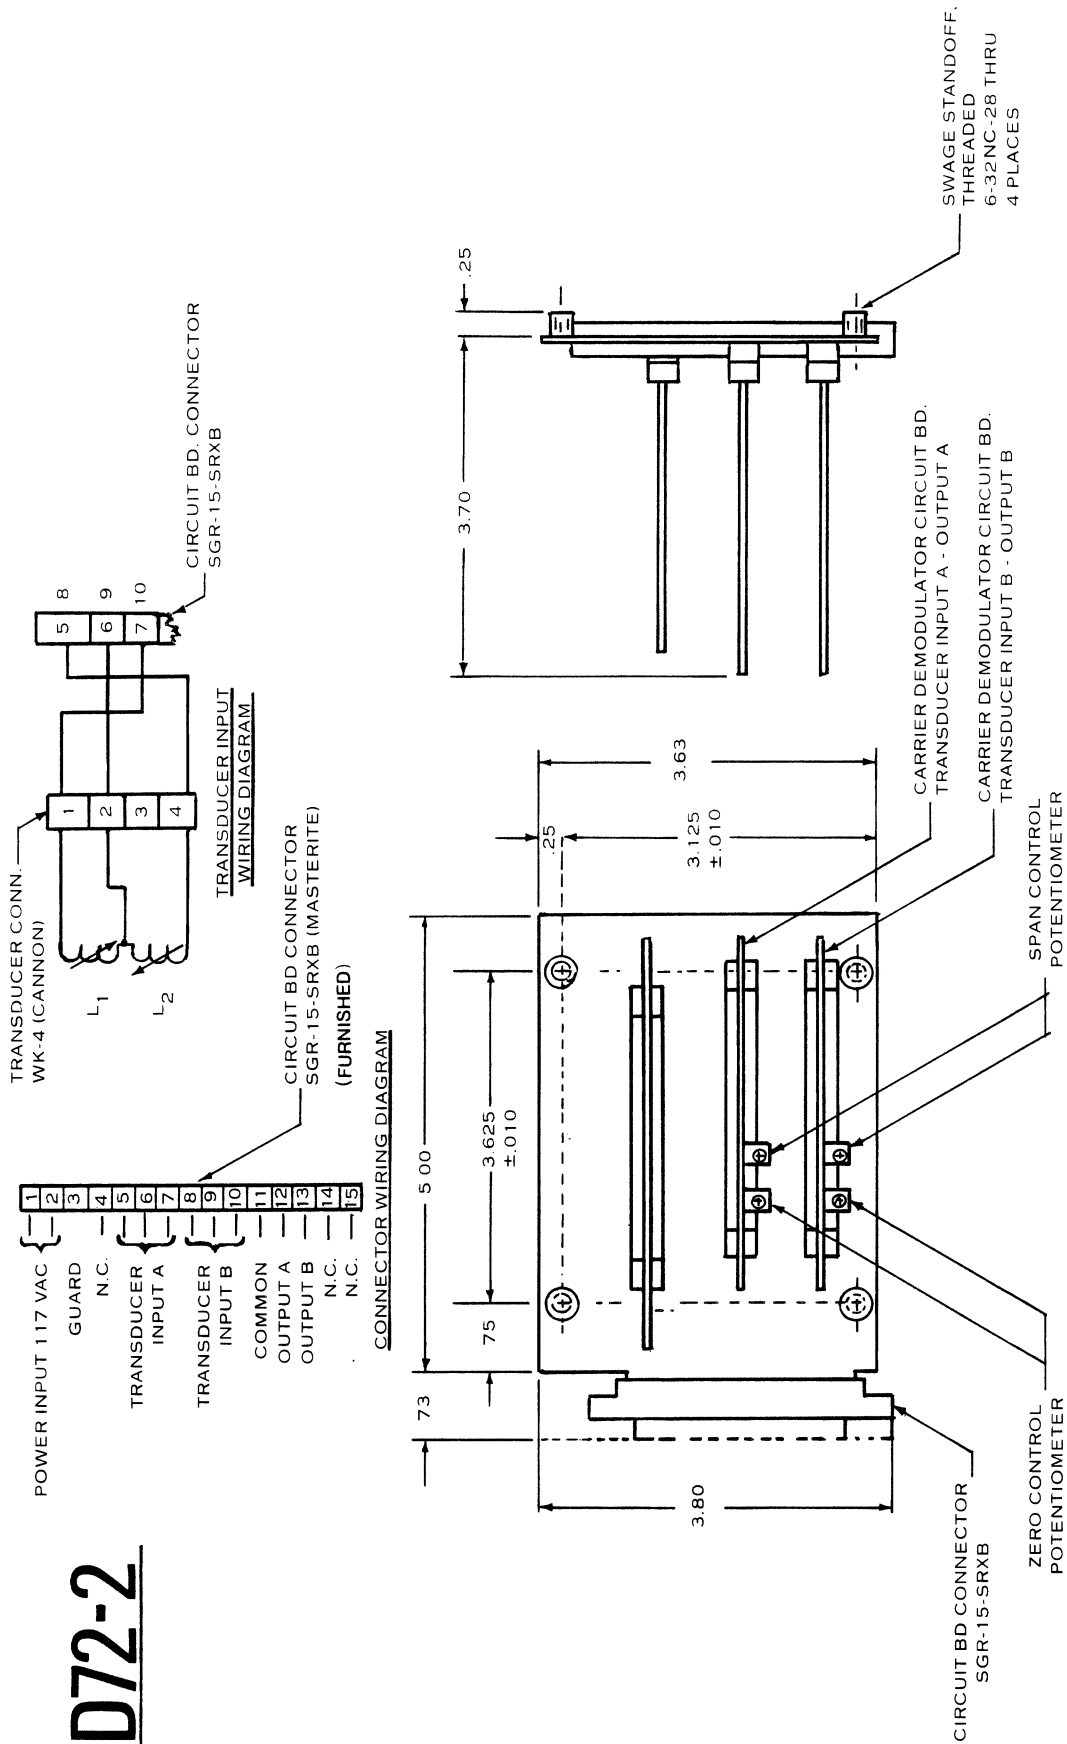

FIGURE 5-3. Outline/Installation Drawing, CD72-2
- c) Figure 5-3. Outline/Installation Drawing, CD72-2